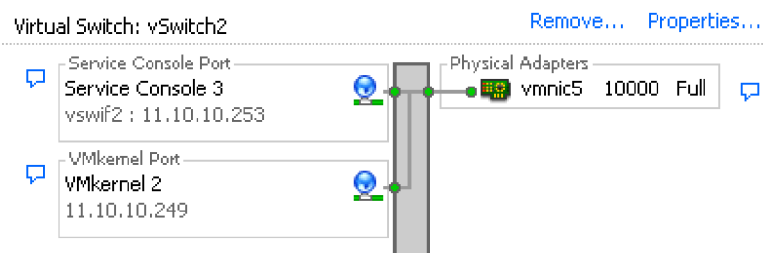

Figure 12 VMkernel and service console on a single vSwitch
- ◆ Requires both VMkernel port and service console to be on the same vSwitch, as shown in Figure 12